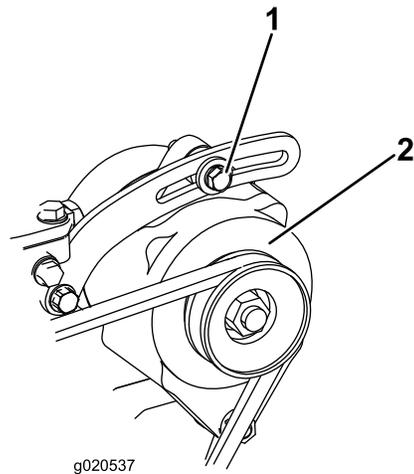

Figure 78
2. Loosen the alternator-mounting bolts (Figure 78).